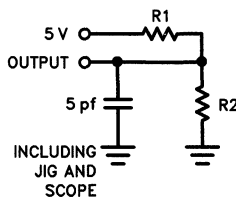

Figure 1b
- Output Loading as in Figure 1b.